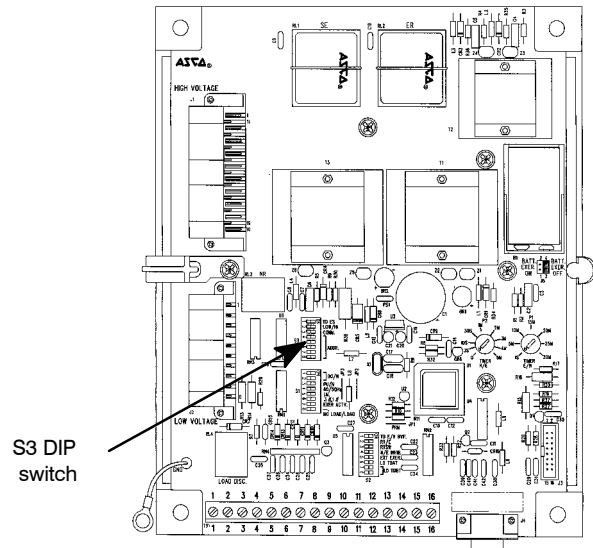

Figure 6. Location of S3 DIP switch in Group 1 Controller (Series 300 ATSs).
2. Locate DIP switch S3 (left center) and set a unique address for this ATS. Use a ball-point pen (or similar pointed tool) to slide the switch actuators left or right so that they match the illustration next to the setting (left=off, right=on). Recheck the setting. See Figures 6 & 7, and refer to Table C on the next page.